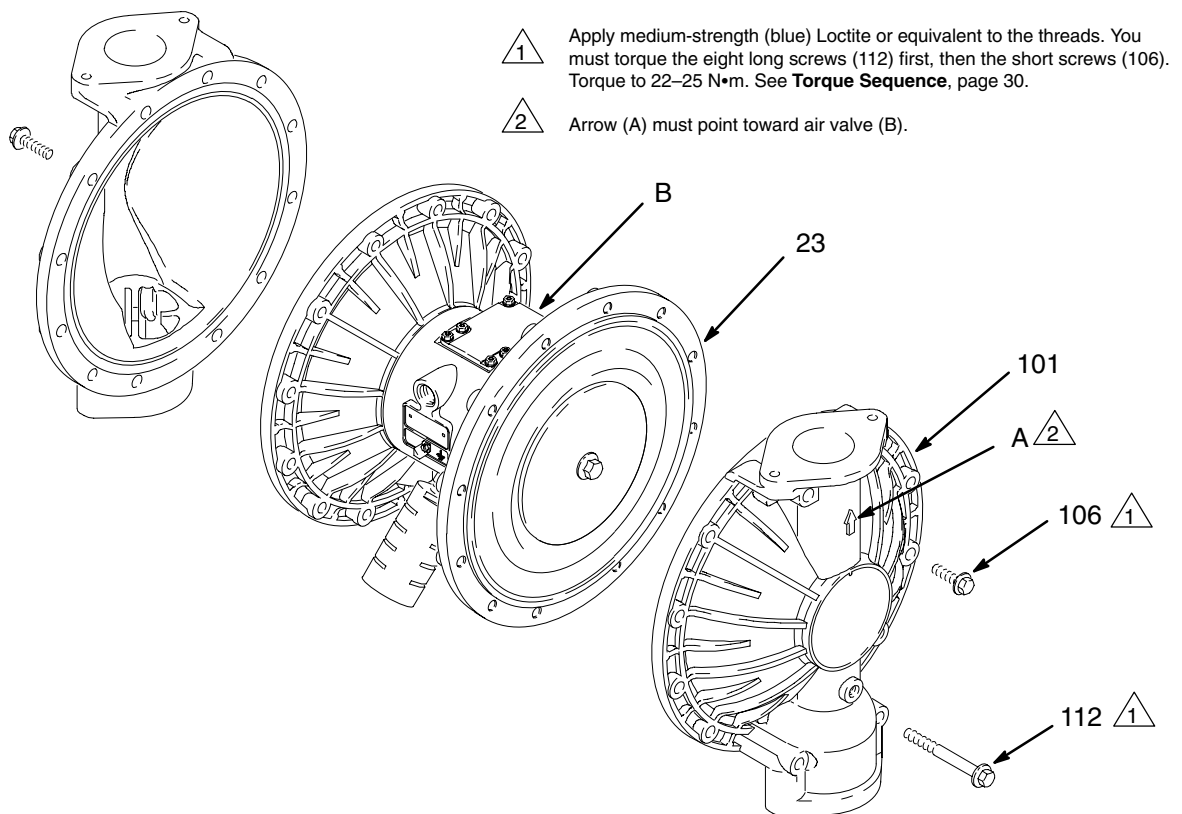

Fig. 11
3. Using 10 and 13 mm socket wrenches, remove the screws (106 and 112) holding the fluid covers (101) to the air covers (23). Pull the fluid covers (101) off the pump. See Fig. 11.
2. Install the diaphragm assembly on one end of the shaft (24) as follows:
- a. Install the o-ring (108*) on the shaft bolt (107).
- b. Install the fluid side diaphragm plate (105) on the bolt so the rounded side faces in, toward the diaphragm (401).
- c. *On PTFE Models only*, install the PTFE diaphragm (403*). Make certain the side marked AIR SIDE faces the center housing (1).
- d. Install the diaphragm (401*) on the bolt. Make certain the side marked AIR SIDE faces the center housing (1).
- e. Install the air side diaphragm plate (104) so the recessed side faces the diaphragm (401).
- f. Apply medium-strength (blue) Loctite® or equivalent to the bolt (107) threads. Screw the bolt (107) into the shaft (24) hand tight.
3. Grease the length and ends of the diaphragm shaft (24), and slide it through the housing (1).
5. Hold one shaft bolt (107) with a wrench and torque the other bolt to 27–34 N•m at 100 rpm maximum.
6. Align the fluid covers (101) and the center housing (1) so the arrows (A) on the covers face the same direction as the air valve (B). Secure the covers with the screws (106 and 112), handtight. Install the longer screws (112) in the top and bottom holes of the covers. See Fig. 11.
7. First, torque the longer screws (112) oppositely and evenly to 22–25 N•m, using a 13 mm socket wrench. Then torque the shorter screws (106), using a 10 mm socket wrench. See **Torque Sequence**, page 30.